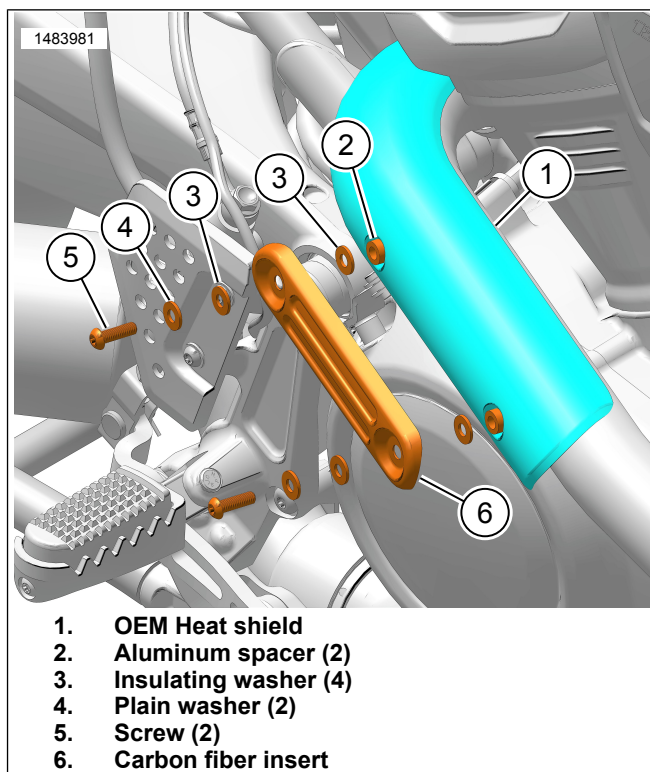

Figure 3. Carbon Fiber Insert
1. See Figure 3. Apply threadlocker to screws (5).